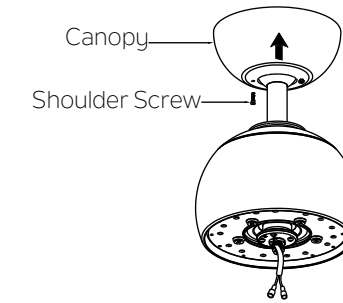

Fig. 13
**Step 2.** Assemble canopy by rotating key slot in canopy over shoulder screw in mounting bracket. Tighten shoulder screw. Fully assemble and tighten second shoulder screw that was previously removed. (Fig. 13)